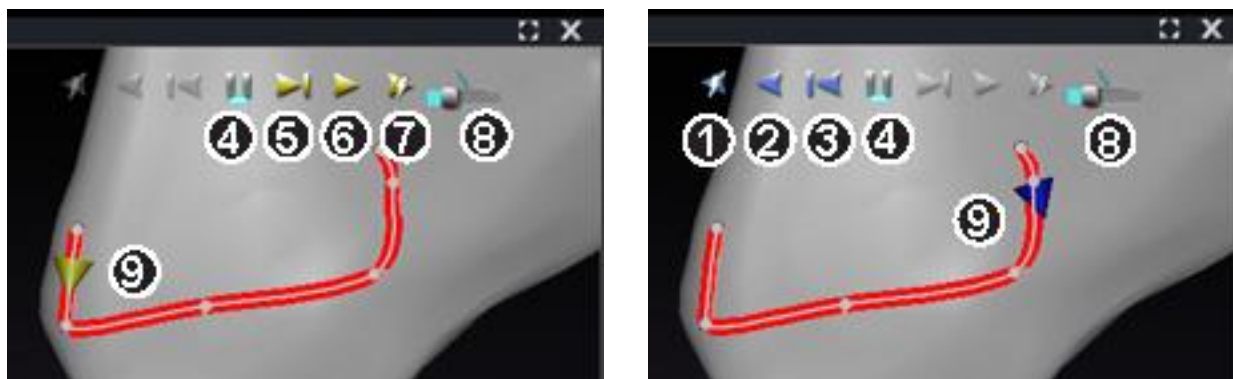

Figure 117. Target cones on *NaviLine*
When the user selects a completed *NaviLine* design line, as in **Figure 117**, they will see context-sensitive controls at the top of the window. In addition, only if the system is set up so that Auto-*NaviLine* is enabled will buttons ① and ⑦ appear as shown in the following figures.
Because the target cone (**Figure 117, left**) is currently at the beginning of the line, the **Backward** buttons are disabled. The **Pause** button is highlighted (blue underline) because no targeting is active. The opposite is true in **Figure 117, right** as the target indicator is at the end of the line and the **Forward** buttons are disabled.
Auto-*NaviLine* tools guide (**Figure 117**)